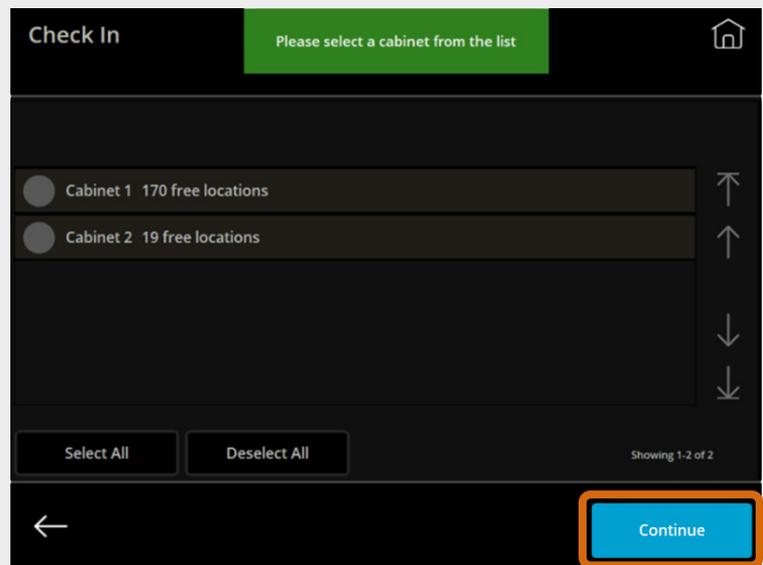

Fig. 38 – Multi-cabinet check-in screen with Continue button indicated
4. Press **Continue**, as shown in Fig. 38.